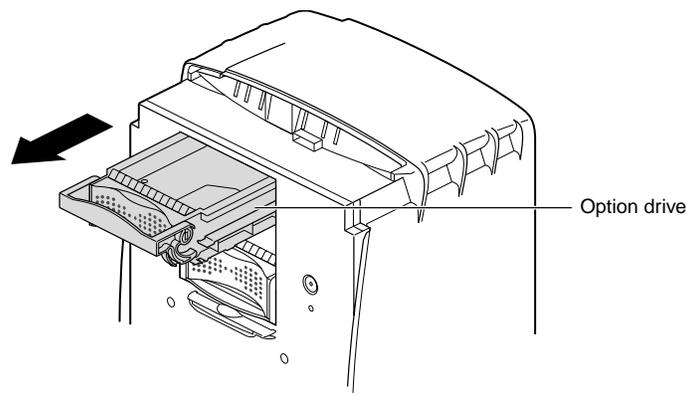

Figure 7-12 Sliding Out the Secondary (Option) Drive
2. Pull the drive directly toward you to remove it from the drive bay, as shown in Figure 7-12.